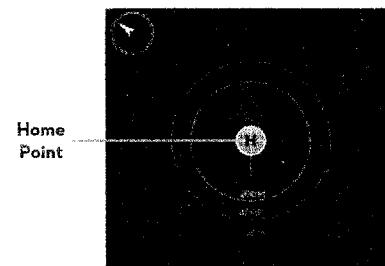
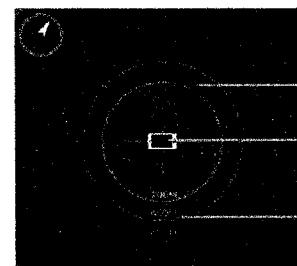

Figure 69
Figure 70
- (1) By default, the center of the radar indicates the home point recorded by the Phantom 2 Vision+. Tap the center of the radar to switch the center to your mobile device’s current location.
- (2) If your mobile device contains a compass, the top portion of the Radar is the direction you are pointing. If not, the radar will be oriented due north.
- (3) Distance units are metric in Figure 69 and Figure 70. Users can switch the unit to imperial in the settings page.